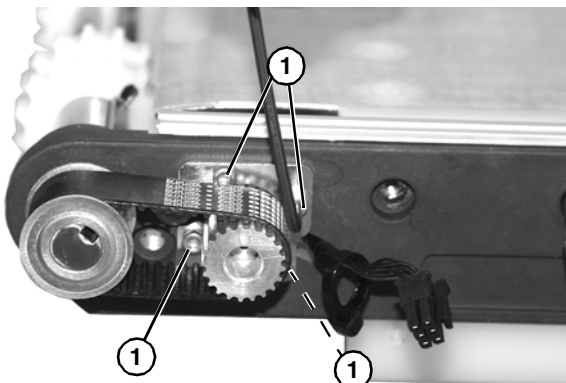

Figure 44
4. Remove hex standoff (**Figure 44, item 3**) and remove tie strap (**Figure 44, item 4**) and wiring harness from hex standoff.
5. Loosen four clamp plate screws (**Figure 44, item 1**).